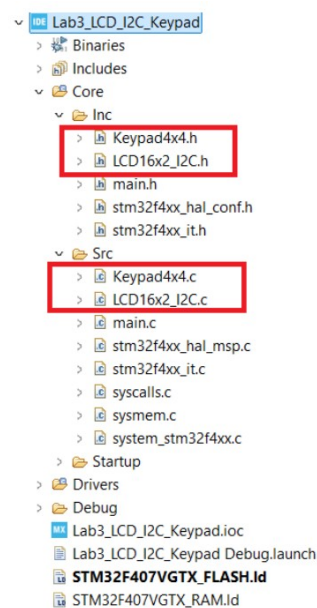

Figure 2.9: LCD and Keypad Libraries
- Copy (or drag and drop) the libraries files found in this link to the locations shown in Figure 2.9: